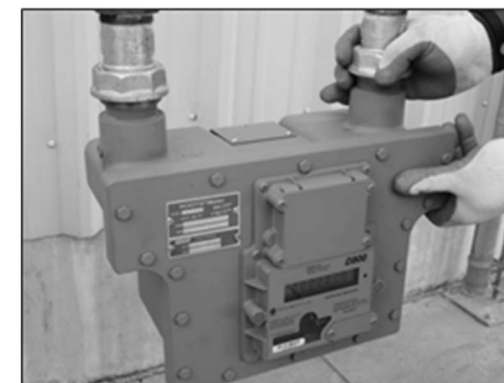

Figure 7: Connect meter outlet to swivel nut on the downstream side
4. Connect meter outlet to the downstream side of the line as shown in Figure 7.